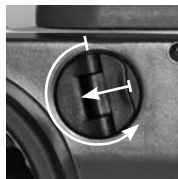

Fig. 1
1. Open the screw cap on the battery compartment on the bottom of the binoculars by turning it in counterclockwise direction (Fig.1)